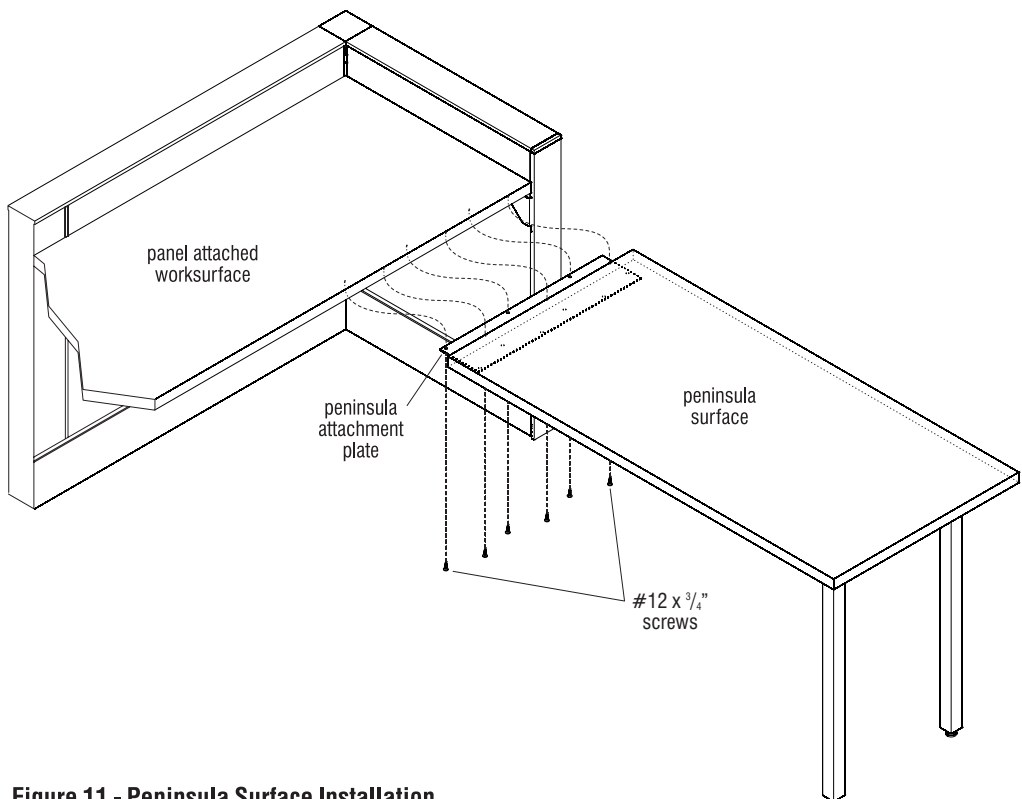

Figure 11 - Peninsula Surface Installation
4. Using an assistant, carefully turn the peninsula surface upright and position the attachment plate to the underside of the panel attached worksurface, at the location the peninsula will secure to. Similar to step 2 above, mark mounting holes through the plate to the underside of the panel attached worksurface. Remove the peninsula surface and pre-drill mounting holes on the marks at the underside of the panel attached surface, to 1/2" in depth only (Figure 11).
5. Place the peninsula surface with attachment plate back under the panel attached surface and secure plate to underside of surface using #12 x 3/4" screws. Take care to not over-tighten screws (Figure 11).